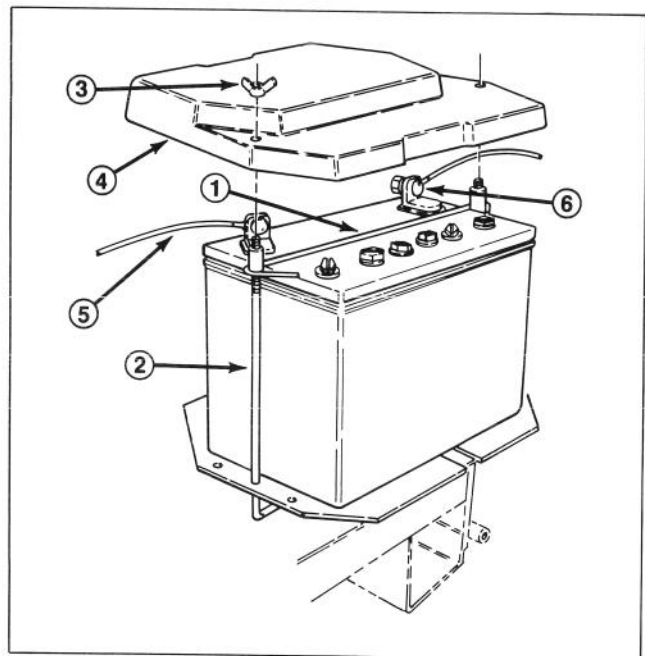

Figure 11
4. Position battery onto holders with terminal posts toward engine (Fig. 11).
6. Mount battery to holders with battery strap, (2) support rods, battery cover and (2) 1/4-20 wing nuts as shown in Fig. 11.